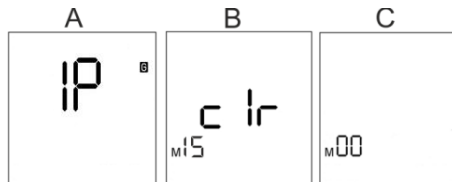

Fig. 10: Delete measurements
⇒ The display shows [IP] (Fig. 10/A).
2) Wait until *[c lr]* flashes on the display (Fig. 10/B).
⇒ The acoustic signal sounds 3 times and the display shows *[M00]* (Fig. 10/C).